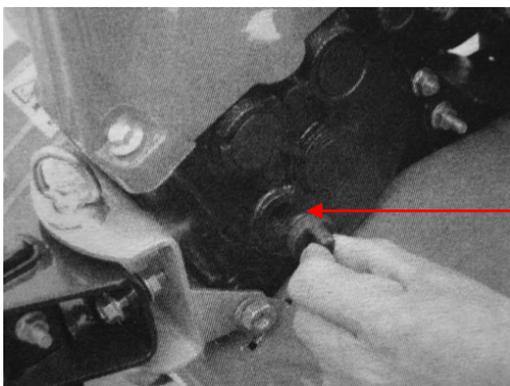

Figure 4
- Put the tiller on a horizontal ground and screw out the oil dipstick (See Fig.4)